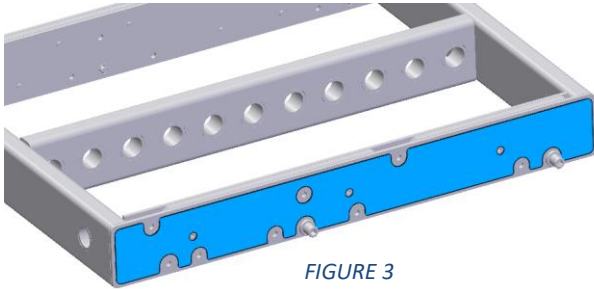

FIGURE 3
3. Install new grid labels, 35.207.303.01 and 35.207.304.01, where the existing labels were, as shown in FIGURE 3. Start by aligning several lanyard holes and adhere into place via a sliding motion. After the label is placed in the proper position, reapply firm pressure over the entire label to ensure good adhesion. Repeat on the opposite side. Use caution that the correct label is on the correct side - all label cutouts will have an exposed hole behind them.